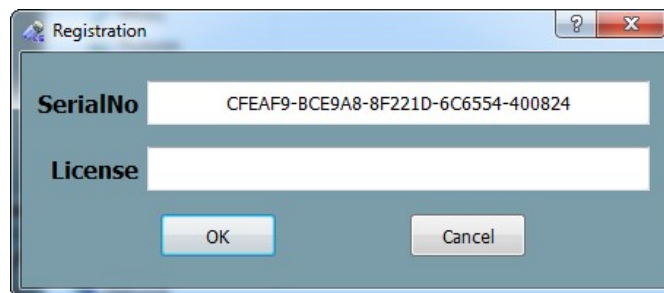

Figure 3-10: Registration Interface
1. At first-time launch of EView software, the registration interface (Figure 3-10) is displayed. The serial number in the top box automatically appears and the user has to enter the license code received from ANKON into the blank box to register the software.